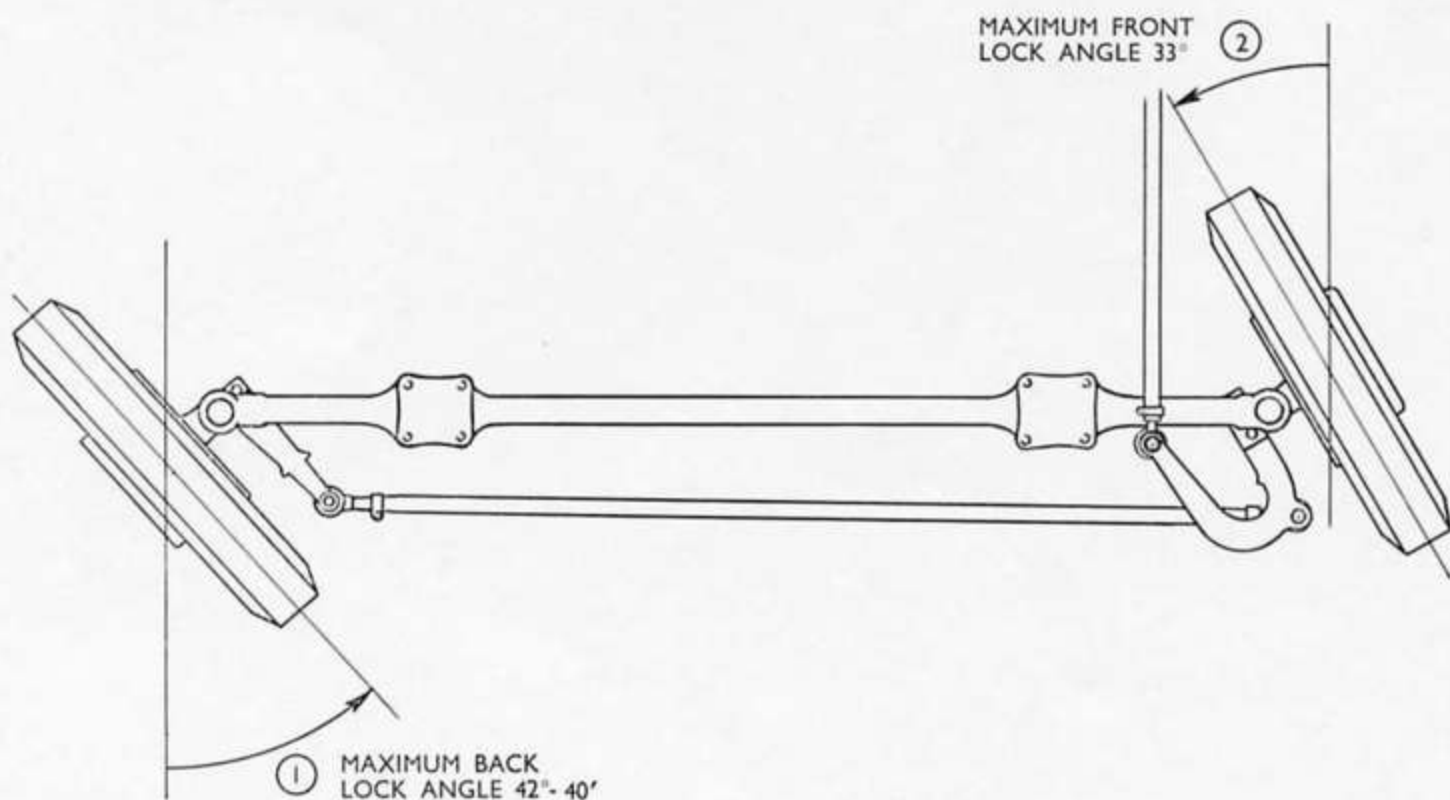

Fig. 19
6. Check the axle lock stops and reset if necessary to give a back lock angle of $42^{\circ} 40'$ (see Fig. 19).
Refer to the turntables and set the maximum back lock angles to $42^{\circ} 40'$. Also, check the maximum front lock angles (see Fig. 19) as the differing turning angles are essential for correct toe-out on turns. This ensures that the inside wheel always turns more than the outside wheel as required for correct steering geometry.